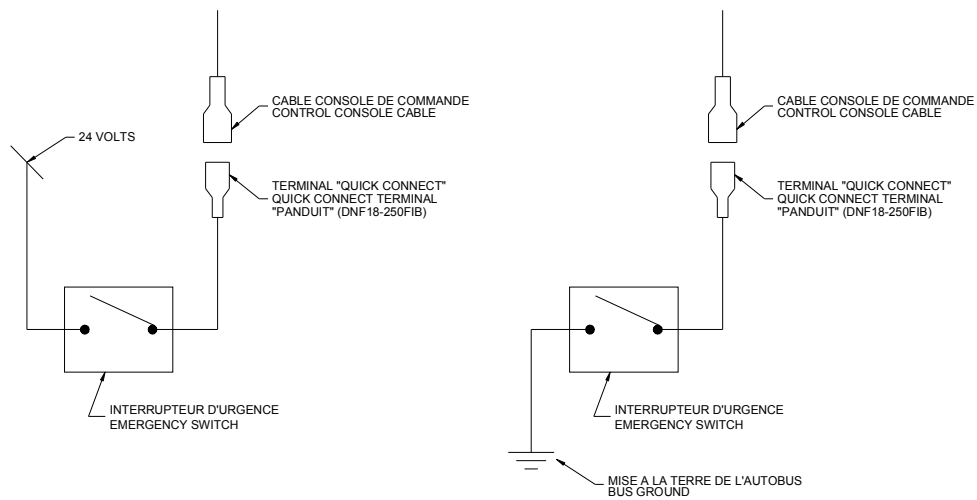

Figure 4: Distress Switch Connection
- Connect the distress signal switch wire to the bus distress switch. (See Figure 4).